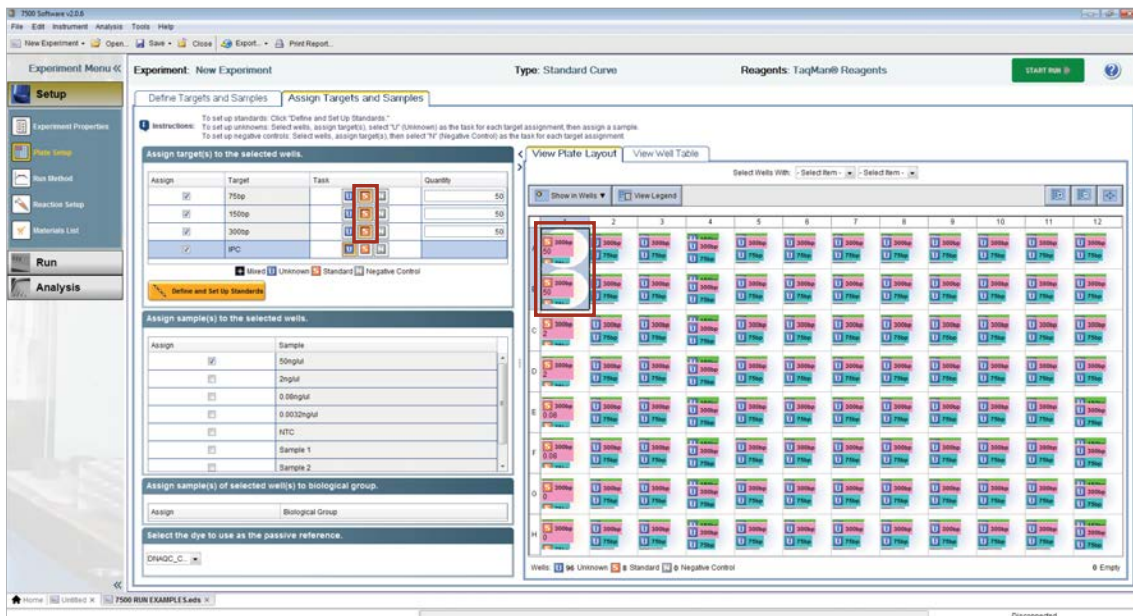

Figure 4. Assigning DNA concentrations to wells with DNA standards.
- Highlight the wells containing the DNA standards on the View Plate Layout tab, and select “S” as the Task for the 75bp, 150bp and 300bp targets (Figure 4).